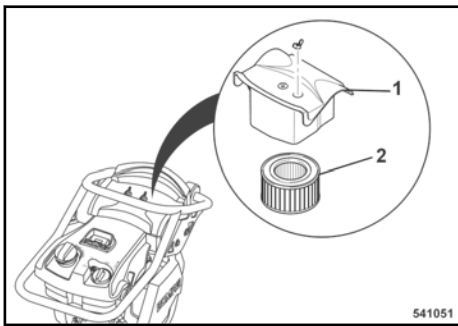

Fig. 81
Remove cover (1) ↘ Fig. 81, carefully take out air filter (2).
Insert the air filter (2) ↘ Fig. 81 and close the air filter cover (1).